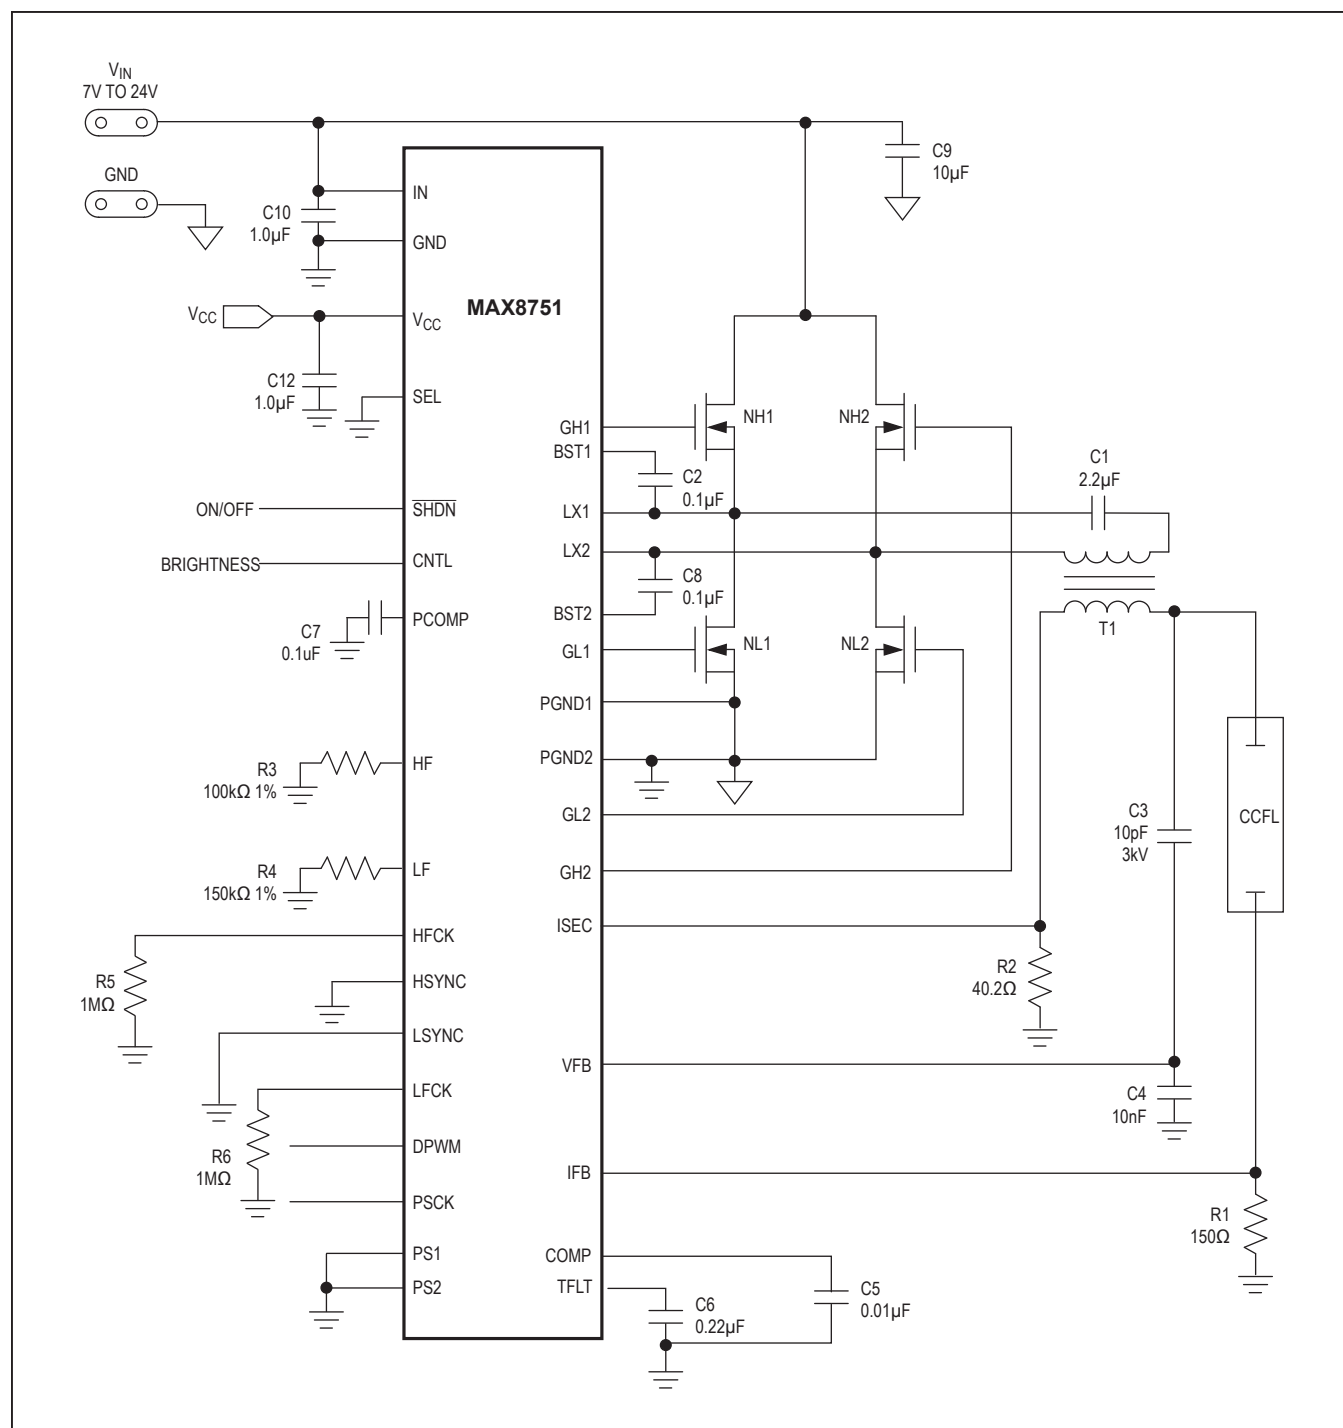
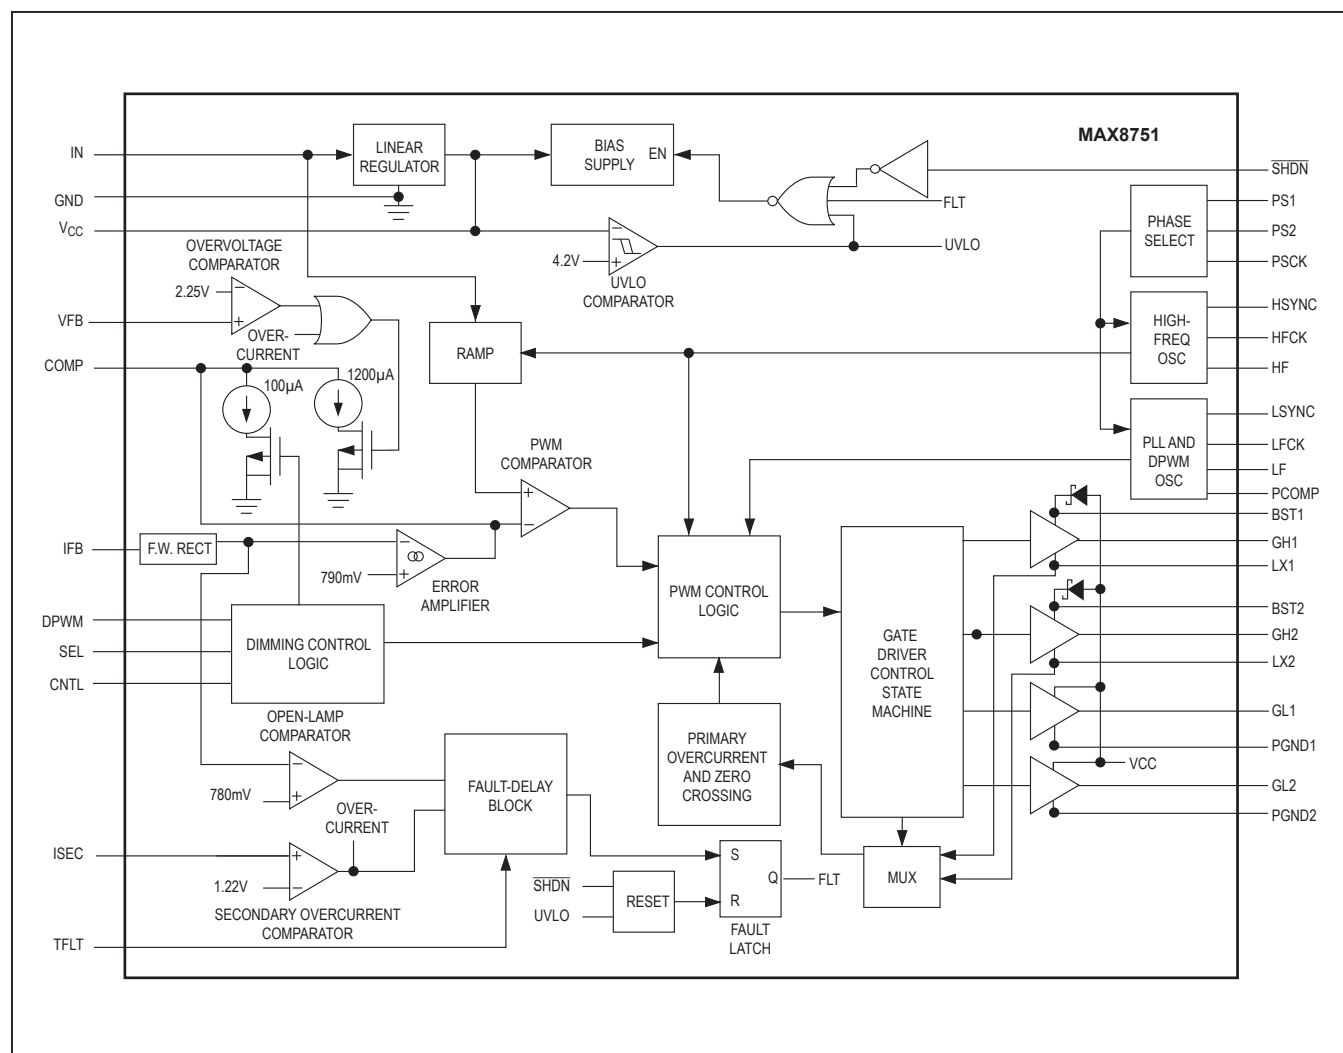
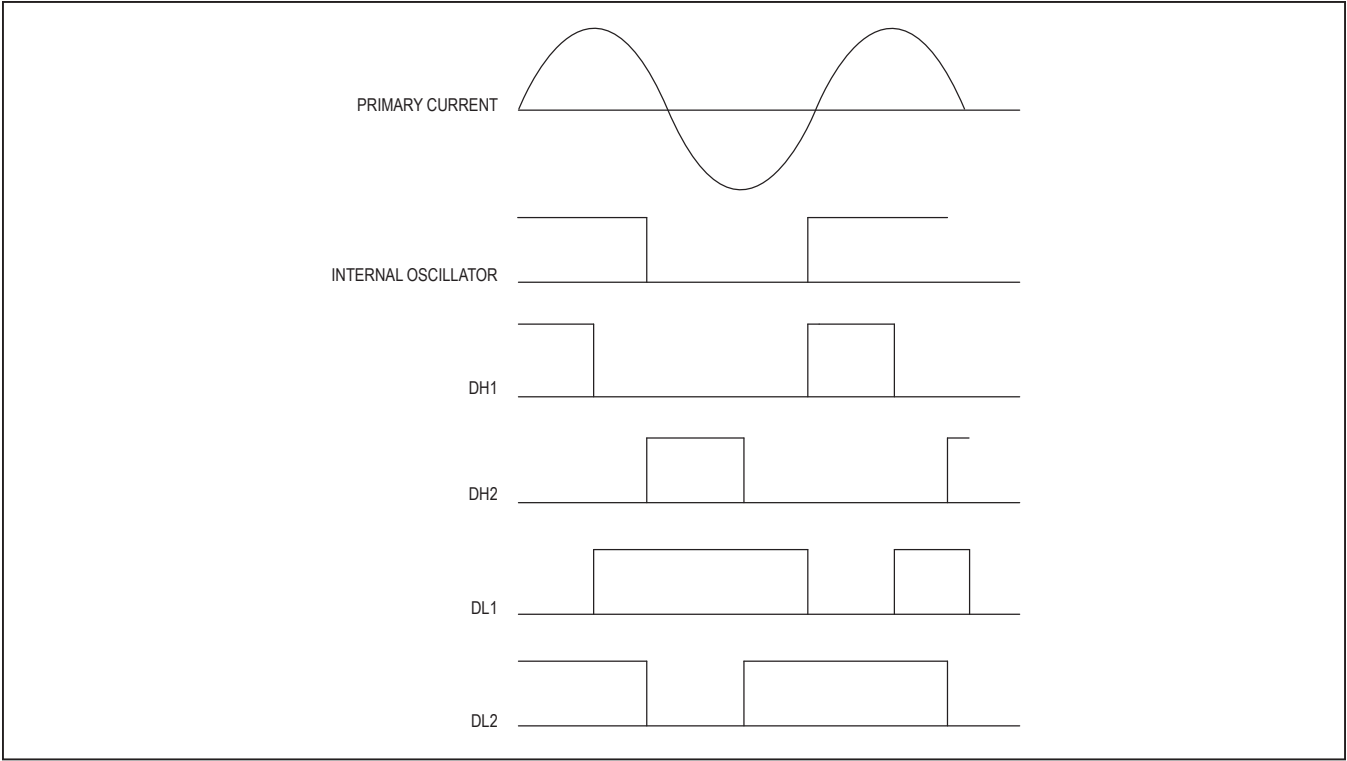

Figure 1. Stand-Alone Typical Operating Circuit
Figure 2. Functional Diagram
Figure 3. Fixed-Frequency Timing Diagram
(Circuit of Figure 1.  $V_{IN} = 12V$ ,  $T_A = +25^\circ C$ , unless otherwise noted.)
**Typical Operating Characteristics (continued)**(Circuit of Figure 1.  $V_{IN} = 12V$ ,  $T_A = +25^\circ C$ , unless otherwise noted.)**DPWM SOFT-START****LAMP-OUT VOLTAGE LIMITING
**Typical Operating Characteristics (continued)**(Circuit of Figure 1.  $V_{IN} = 12V$ ,  $T_A = +25^\circ C$ , unless otherwise noted.)
Figure 1 shows the *Stand-Alone Typical Operating Circuit* and Figure 2 shows the Functional Diagram of the MAX8751. The circuit in Figure 1 consists of a fullbridge inverter, which converts unregulated DC input voltage into a nearly sinusoidal high-frequency, AC output for powering CCFLs. The MAX8751 is biased from an internal 5.35V linear regulator with UVLO comparator that ensures stable operation and clean startup characteristics. The MAX8751 includes several layers of fault-protection circuitry, consisting of comparators for detecting primary-side current limit, secondary-side overvoltage, secondary short circuit, and open-lamp faults. A logic block arbitrates the comparator outputs by making sure that a given fault persists for a minimum duration before registering the fault condition. A separate block provides dimming control based upon analog or DPWM inputs. Finally, a dedicated logic circuit provides synchronization and phase-control functions for daisy-chaining up to five MAX8751s without phase overlap.
Figure 3 is the timing diagram of constant-frequency operation, showing the primary current, internal oscillator, and gate signals. At the beginning of the positive half cycle, switches NH1 and NL2 are ON (see Figure 1), and the primary current ramps up. The controller turns off NH1 when the primary current reaches its peak, which is set by the COMP voltage. The primary current continues to flow through the freewheeling body diode of NL1. Next, the low-side switch NL1 is turned on under zero-voltage switching (ZVS) conditions. Now the primary current starts ramping down. The falling edge of the internal oscillator turns off NL2 and turns on NH2, starting the negative half cycle. The fixed-frequency operation continues with the inverter controlling the fullbridge MOSFETs to produce near the sinusoidal lampcurrent waveform.
The MAX8751 uses a lamp-current control loop to regulate the current delivered to the CCFL. The heart of the control loop is a transconductance error amplifier in Figure 2. The AC lamp current is sensed with a sense resistor connected in series with the low-voltage terminal of the lamp. The voltage across this resistor is fed to the IFB input and is internally full-wave rectified. The transconductance error amplifier compares the rectified IFB voltage with a 790mV (typ) internal reference to generate an error current. The error current charges and discharges a capacitor connected between the error amplifier's output (COMP) and ground to create an error voltage ( $V_{COMP}$ ).  $V_{COMP}$  is then compared with an internal ramp signal to control the high-side MOSFET switch on-time ( $t_{ON}$ ).